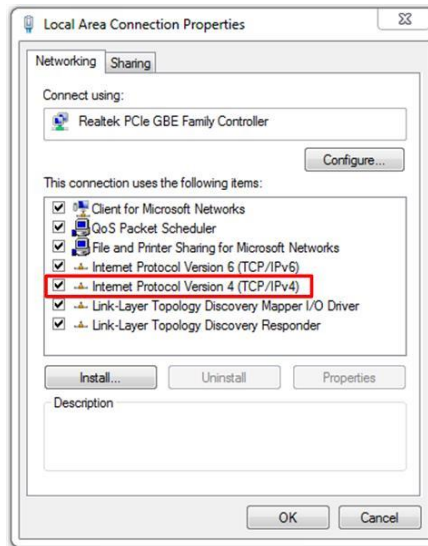

Figure 3-4 Windows Network Connections properties page
Step 6: From the Local Area connection Properties window, double-click on "Internet Protocol Version 4 (TCP/IPv4)". See Figure 3-4.